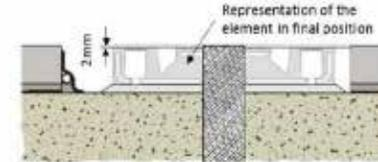
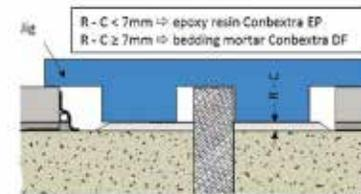

Figure 4
Figure 5: Setting the bedding thickness by using special Jig
- Adjust the bedding thickness by using a metallic or wooden jig (Figure 5) to position the elements between 0 and 2 mm below the road surface level (Figure 4).
- Use as bedding support the following products depending on pavement thickness (R) and joint thickness (C) (Figure 5):